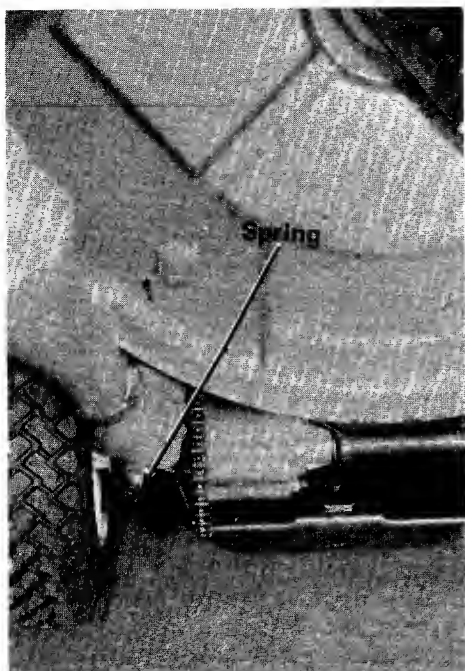

Figure 21
- 5 Unhook both deck springs. (See figure 21.)